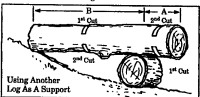

Figure 25
4. BUCKING USING ANOTHER LOG AS A SUPPORT (Figure 25)